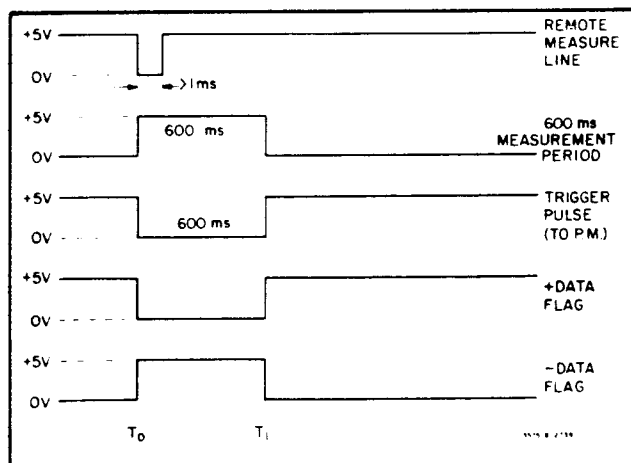

Figure 3-11. Flag Timing Non-Delayed Mode.
Mode line in a "true" condition (gnd. or  $-0.5\text{ V}$  to  $+0.4\text{ V}$ ). When the Trigger Mode line is grounded, the timing sequence is in the Non-Delayed Mode which operates as shown in Figure 3-11.
**3-84. Non-Delayed Mode.** In Figure 3-11, the Remote Measure line is pulled low at  $T_0$  by the external controller. This immediately initiates the 600 ms delay, triggers the panel meters and sets the + and - Data Flags. At the end of the 600 ms delay ( $T_1$ ), the Data Flags are reset to indicate that a reading has been taken.